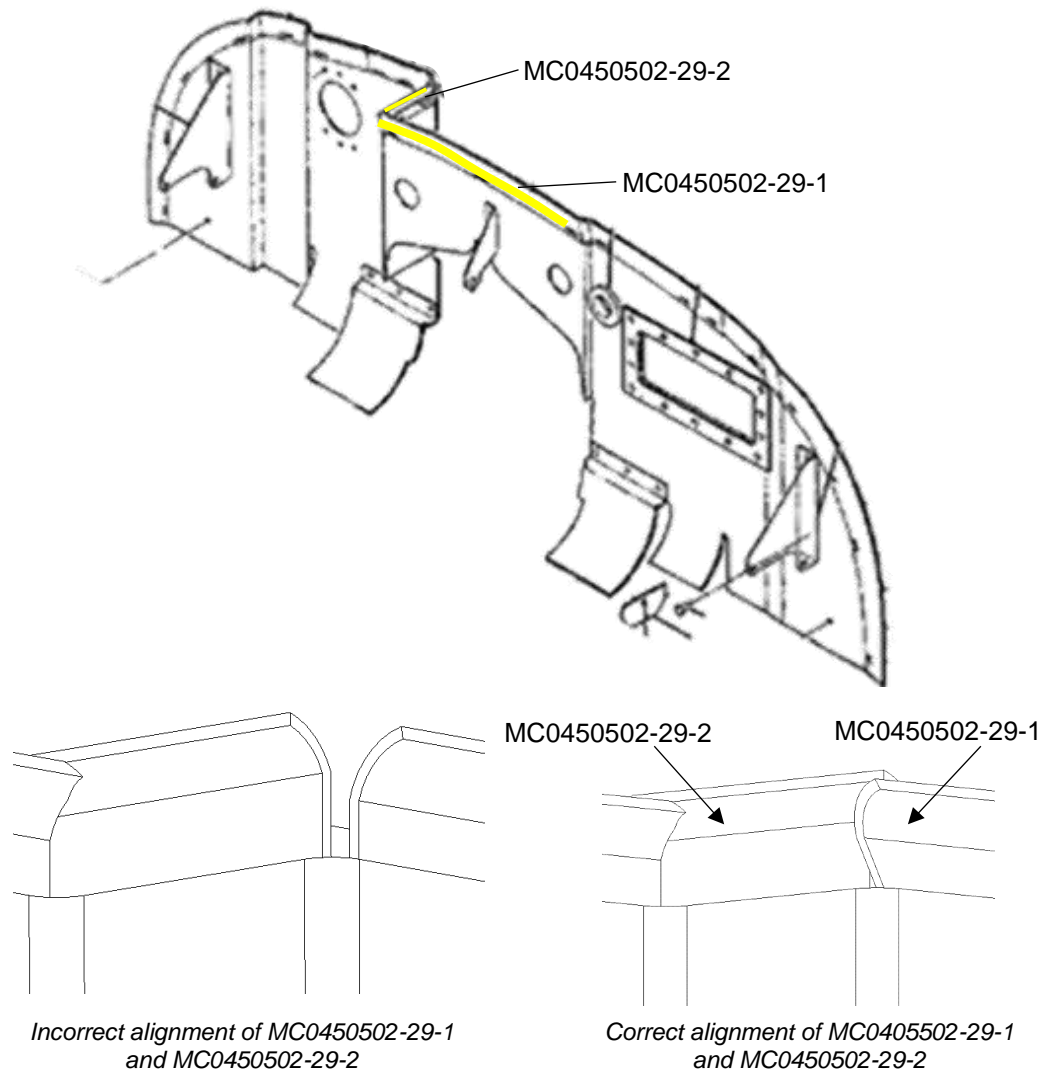

Figure 9: Special Installation Instructions for MC0450502-29
P/Ns MC0450502-29-1 and MC0450502-29-2 were designed so that there is extra material in the corner where they meet and make a right angle. The added material will allow for the seals to curve against the cowling while keeping the needed air tight seal. There should be an overlap of material when the cowling is reinstalled as seen in the right image of Figure 9. The left image shows how, if the seals are not mounted correctly, can create a gap at the turn that will cause poor recirculation of air.
2. 0450502-29 will be replaced with MC0450502-29-1 and MC0450502-29-2. See Figure 9 below for location and orientation of new seals.
3. Use Figure 9 for installation orientation and overlap of MC0450502-29-1 and MC0450502-29-2
Note: MC0450502-29-2 should overlap MC0450502-29-1 to create a seal between the seals as shown in Figure 9.